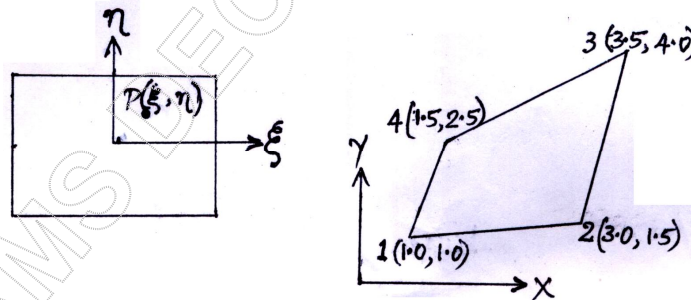

Fig.Q8(a)
- 8 a. Determine the Cartesian coordinate of the point $P(\xi = 0.8, \eta = 0.9)$ as shown in Fig.Q8(a).